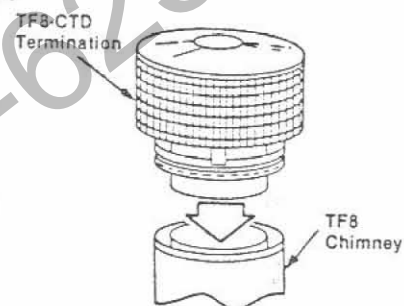

Figure 38
- 1) Hold CTD over top of last chimney section (Figure 38).